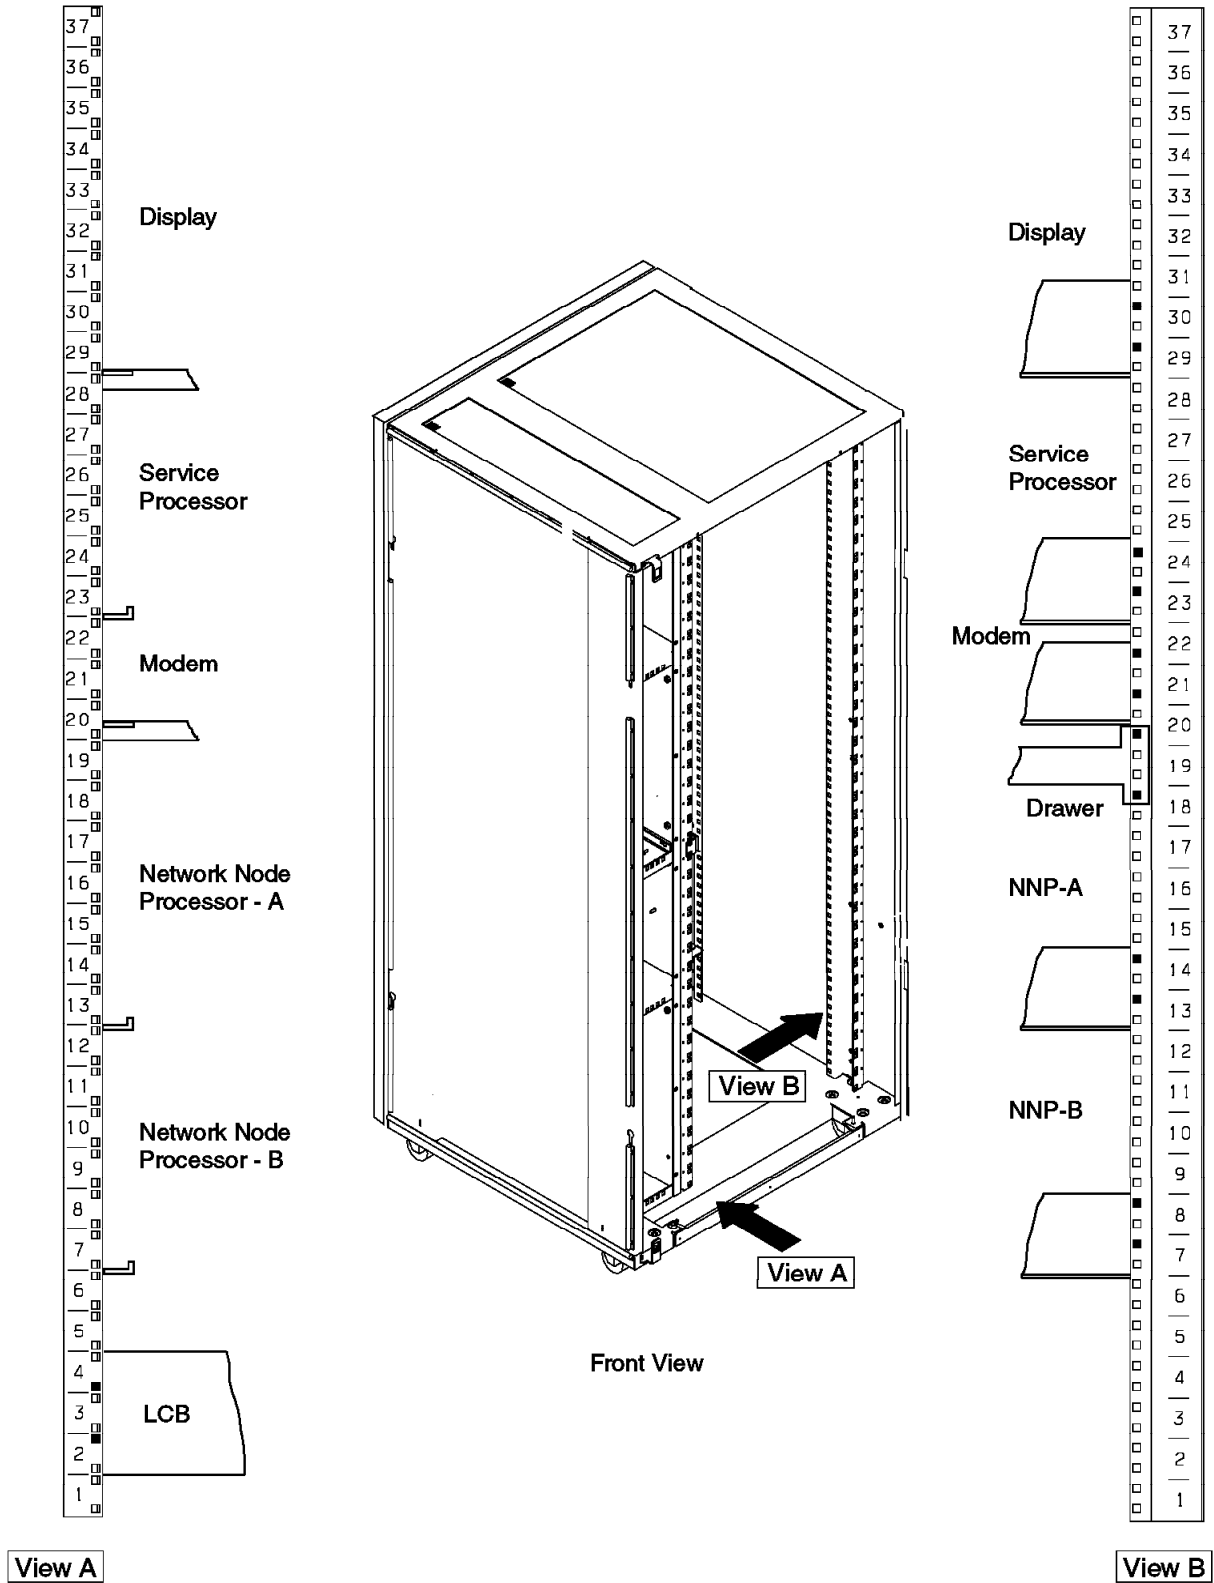

Figure 3. NNP-B with SP3172 or PS/2 9577. Details of installation.
- ___ 1. Locate NNP-B position in the Controller Expansion (See Figure 3 on page 6).